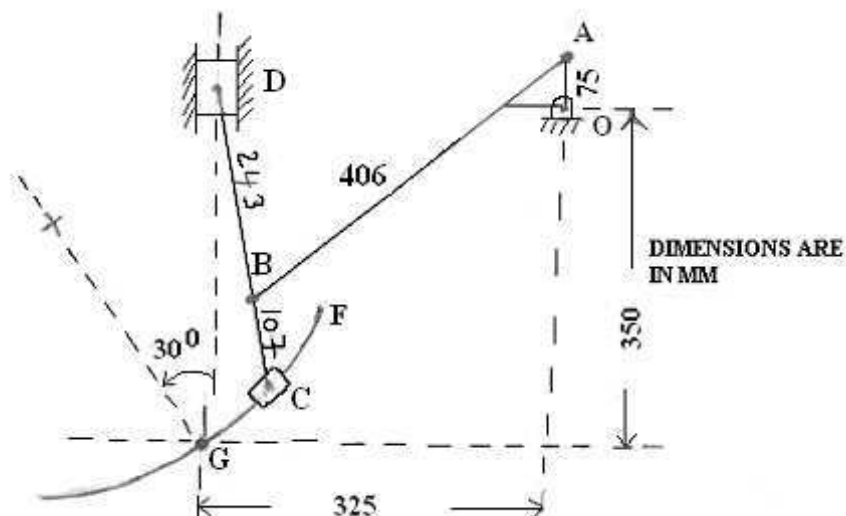

Figure 3
- The mechanism of a variable-stroke feed pump is shown in figure 3. The drive is taken from the crank OA to the pin B on the connecting rod CBD. The end C of the connecting rod carries a die-block which moves along the curved slotted link EGF. The radius of curvature of the slot is equal to the length of the connecting rod CD and the stroke of the feed pump may be varied by rotating the slotted link about the fixed fulcrum G. If the crank OA makes 225 r.p.m. find for the given position of the mechanism.